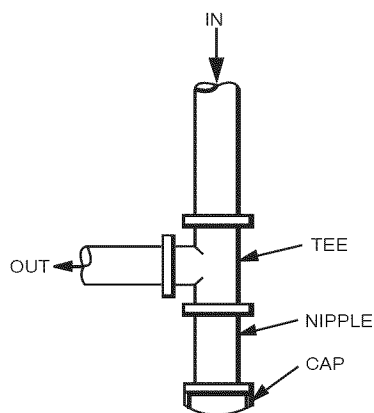

Fig. 8 - Sediment Trap
4. Install sediment trap in riser leading to heating section (See Fig. 8). This drip leg functions as a trap for dirt and condensate.